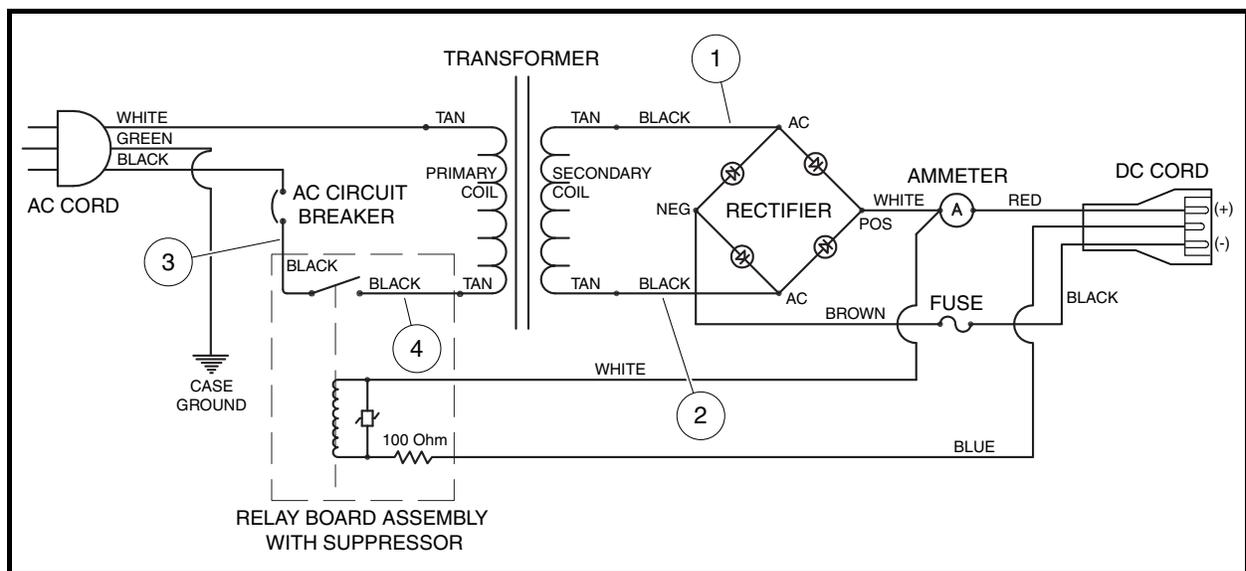
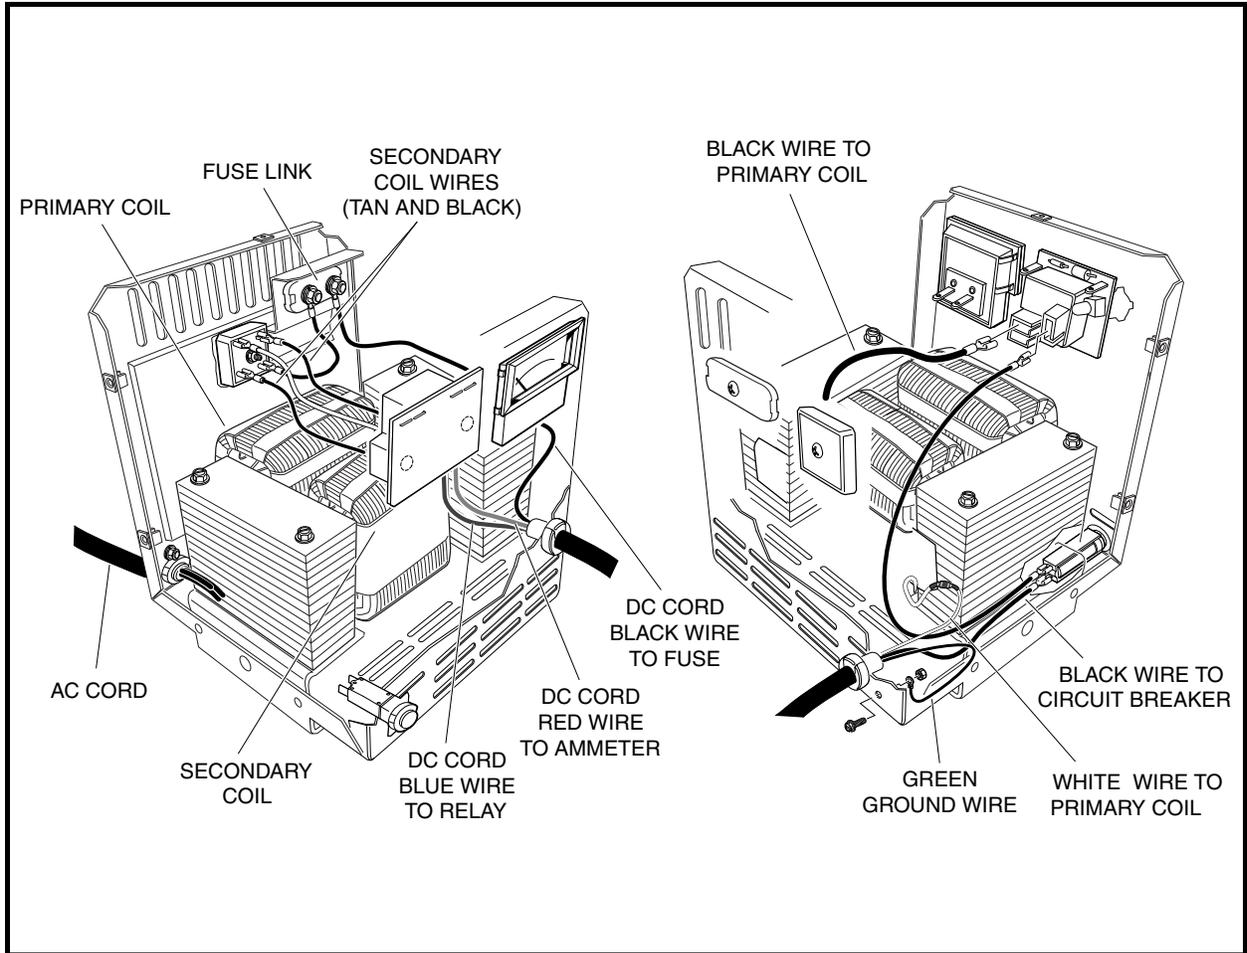

Figure 6-9 PowerDrive 3 Battery Charger Wiring Diagram (External Charger)
Figure 6-10 PowerDrive 3 Battery Charger Components – Model 26560
3. If the charger does not operate exactly as described above, refer to the wiring diagram and make sure that the vehicle is wired correctly (**Figure 6-3, Page 6-4**) and that the internal charger wiring is correct (**Figure 6-9, Page 6-11**).
- Knowledge of battery charger wiring and component terminology is required before attempting any repair (Figure 6-9, Page 6-11 and Figure 6-10, Page 6-15).